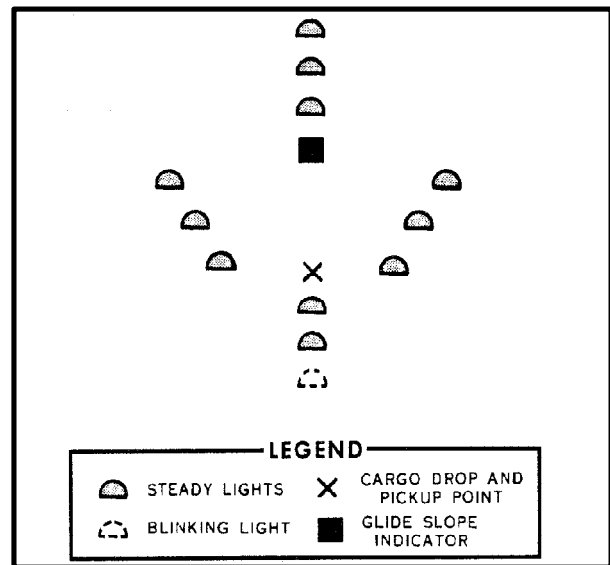

Figure 4-15. GAIL System
**i. Glide Angle Indicator Light (GAIL).** (USMC) The GAIL system is used whenever possible (Figure 4-15). The GAIL is positioned to project its beam along the preferred direction of approach. The glide path angle must provide clearance over the highest obstacle along the avenue of approach. Glide path angles from 3 to 8 degrees are common and acceptable. Angles greater than 8 degrees are considered too steep and could cause difficulty in maintaining the aircraft on the glide path. Since the GAIL has a narrow beam width, assist the pilot in finding it by placing additional lights in the landing site. Remember, the preferred direction of approach is into the wind. However, when the landing site size does not allow the glide path to be directed into the wind without exceeding 8 degrees, the GAIL system should be shifted left or right to a glide path of less than 8 degrees. Ap-